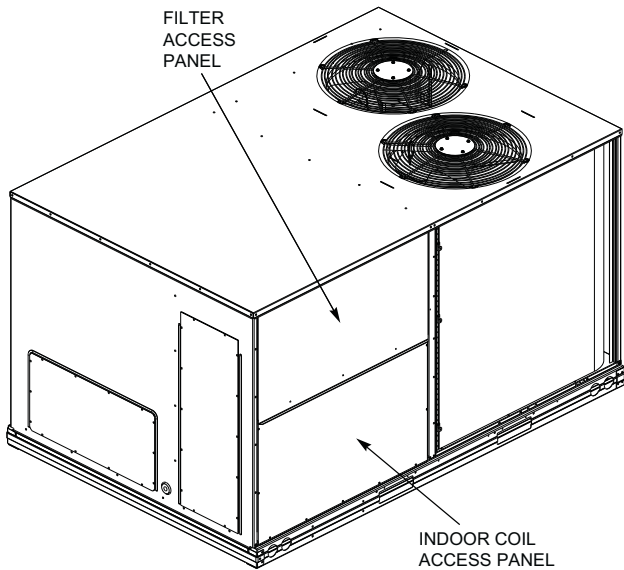

Fig. 10 - Access Panel Locations
2. To gain access to the hood, remove the filter access panel. (See Fig. 10.)